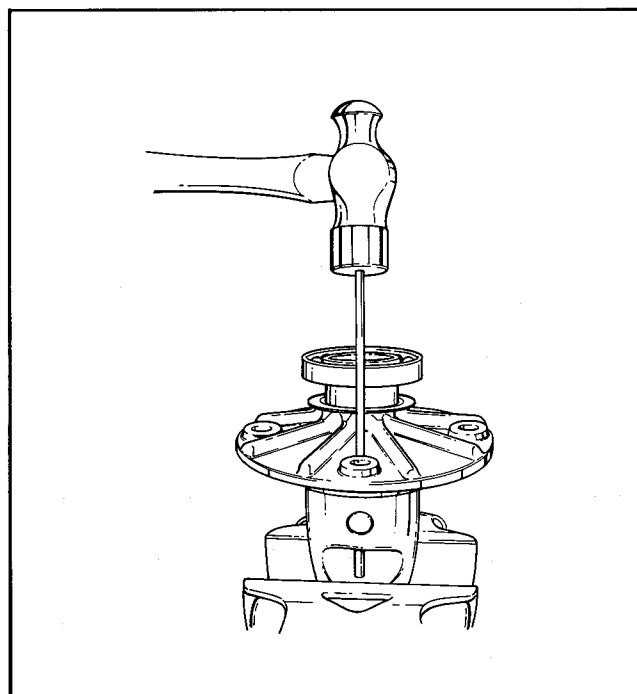

Figure 4-15 – Installing Lock Pin
- d. Align lock pin hole in pinion mate shaft (14) with hole in carrier and drive lock pin (9) to approximate center location of pinion mate shaft. See Figure 4-15.